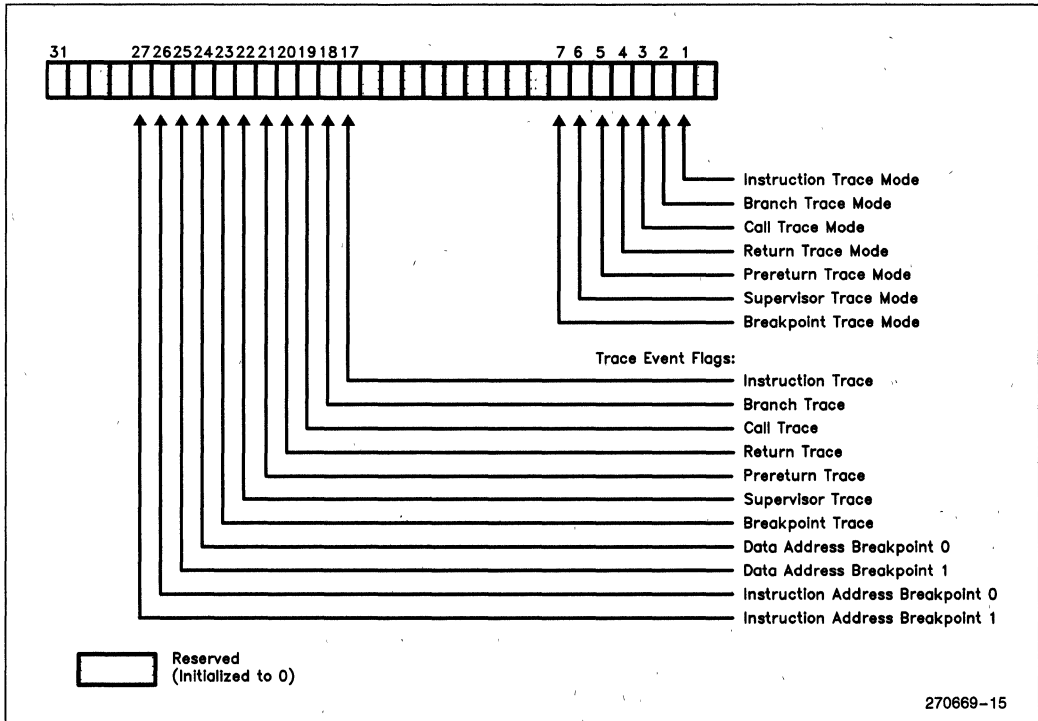

Figure 3-12. Trace Control Register
The *Trace Control (TC) Register* (Figure 3-12) is used to specify the types of instructions which cause trace events. When a mode bit in the TC register is set, specific instructions will generate trace events. For example, if the branch trace mode bit is enabled and a branch instruction is executed, a branch trace event will be signalled. An event flag is used to record trace events. A single event flag is provided for each mode bit. Any trace event generates a trace fault when the trace enable bit in the process control register is set.